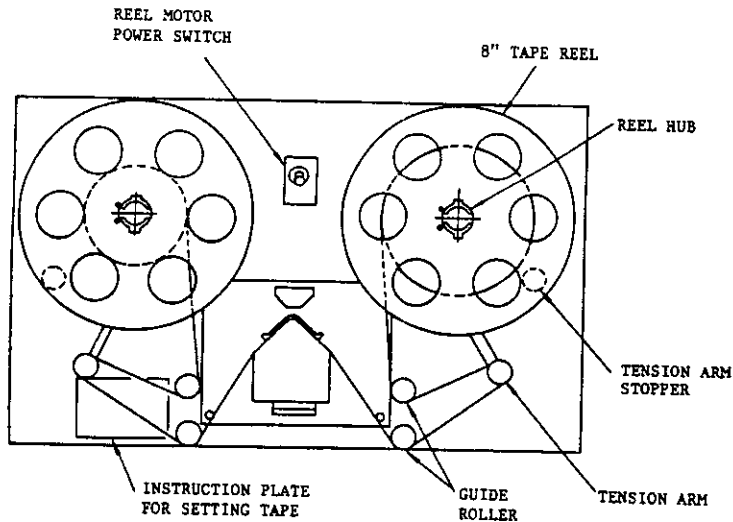

Fig. 5.6
When the tape is not in use, and when mounting and dismantling the tape, be sure to switch off the power supply switch. In this condition, the reel motor is switched off, and the reels are free. See Fig. 5.6.
11. Turn the two reels by hand and bring the tension arms to a middle position between the guide rollers and the tension arm stopper. Now, the tape reels and the part program tape have been properly mounted as shown in Fig. 5.6.